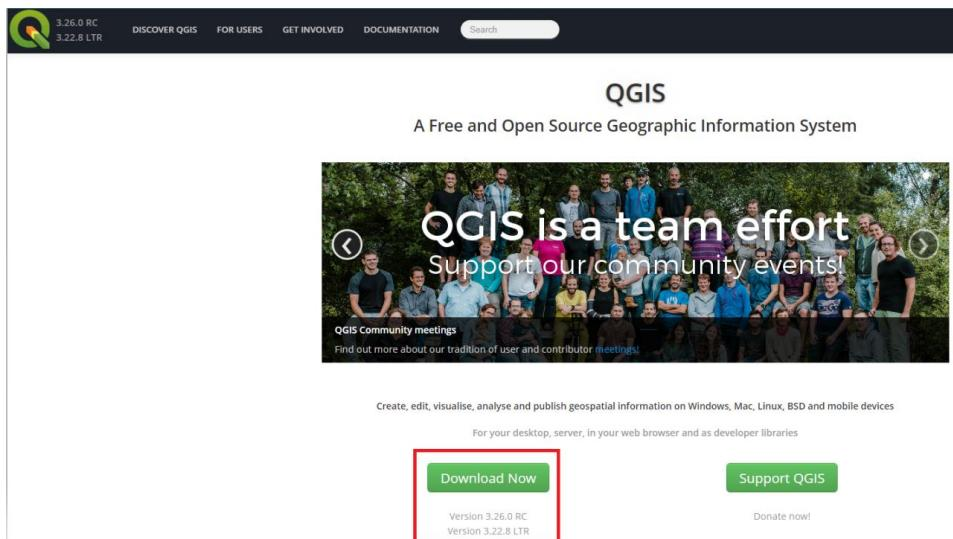

Figure 1-6. QGIS downloading homepage
- Step 1: Visit this link: <https://www.qgis.org/en/site/> and download QGIS software (Figure 1-6). Documentations for using QGIS can be found at this address.